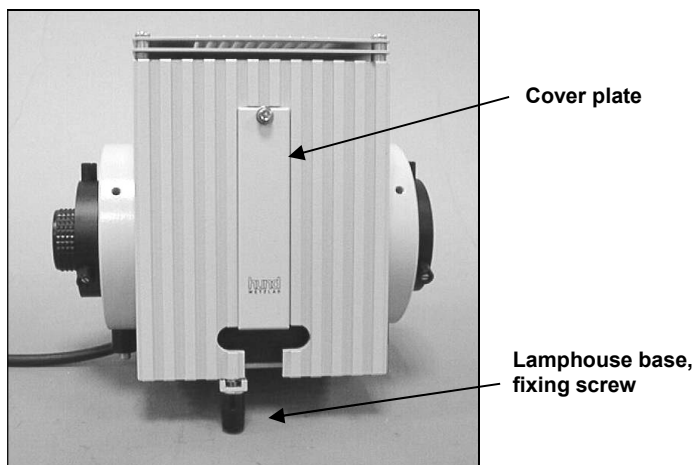
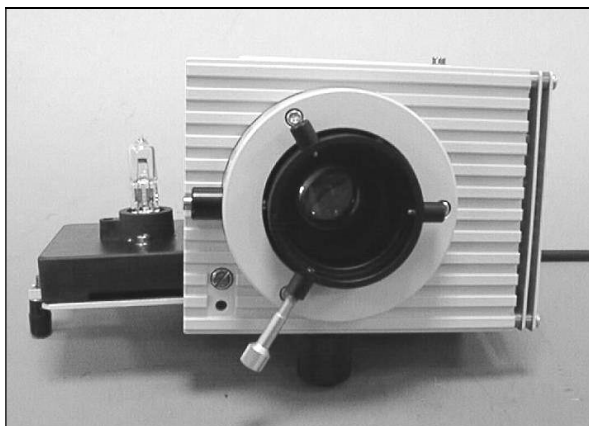

Fig. 54: Halogen lamphouse. Positions of cover plate and fixing screw of the lamphouse base.
Fig. 55: Lamphouse with swung-out bulb.
- Loosen the fixing screw of the cover plate and remove it (Fig. 54).
- Loosen the fixing screw of the lamphouse base (Fig. 54) by hand and swing it open as in Fig. 55.